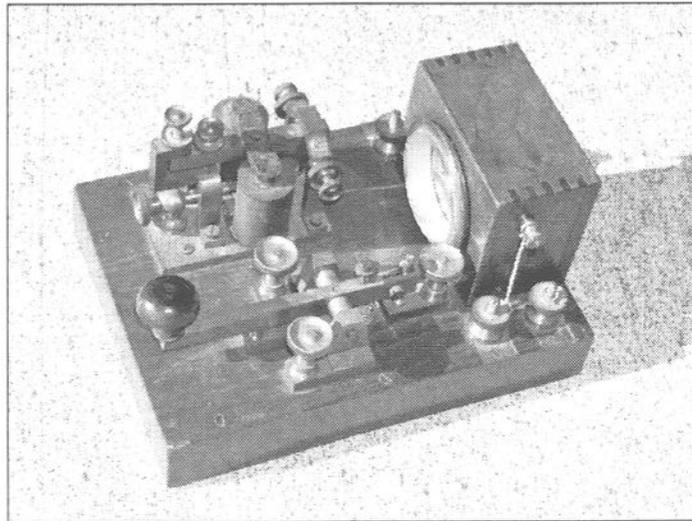

Figure 3
A photograph, courtesy of Henry, ZLIAAN, showing this complete key, sounder and galvanometer set is shown in Figure 3. After 65 years, Arthur cannot now recall why or how the galvanometer was used in a simplex line, but somebody out there must surely know.
- Figure 3. End view showing modified form of upright vibrator in which the weight is arranged at the top.